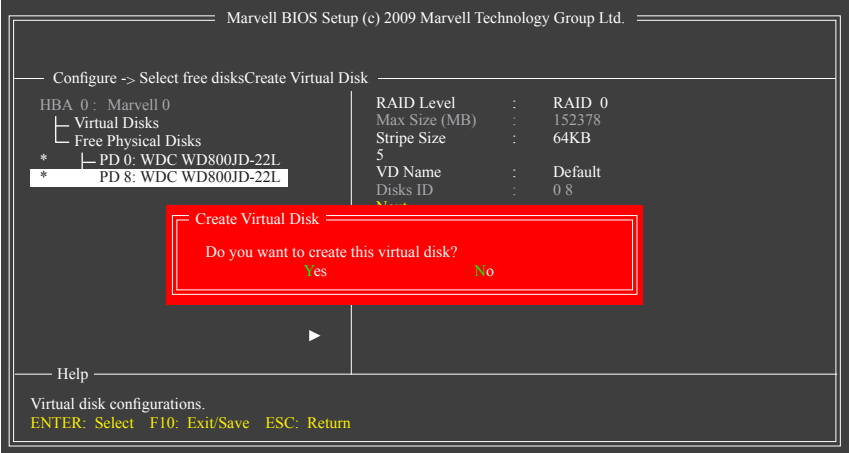

Figure 5
- 6. **Next:** After completing the settings above, move to **Next** and press <Enter> to begin creating the array. When prompted to confirm whether to create this array, press <Y> to confirm or <N> to cancel (Figure 5).